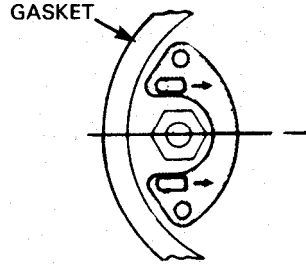

Fig. 4 For Traps:
6. Mount the guide pin assembly with the two screws provided. The guide pins must always point away from the adjoining gasket surface (See figs. 4 and 5).